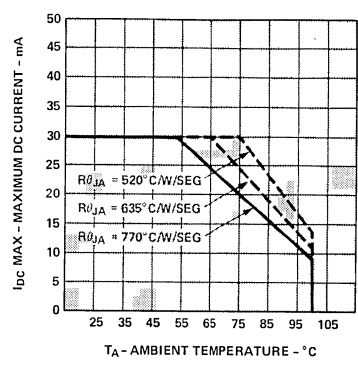
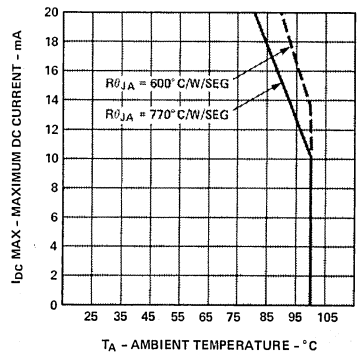
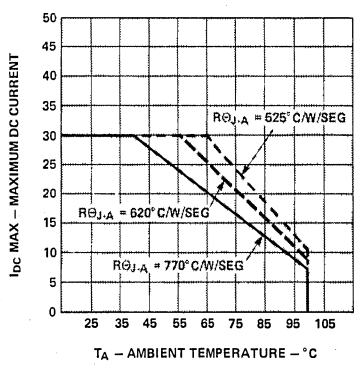

Figure 9. Maximum Allowable DC Current and DC Power Dissipation per Segment as a Function of Ambient Temperature — HDSP-7501 Series
Figure 10. Maximum Allowable DC Current and DC Power Dissipation per Segment as a Function of Ambient Temperature — HDSP-7401 Series
Figure 11. Maximum Allowable DC Current per Segment vs. Ambient Temperature — HDSP-7801 Series
8. See Figures 2, 9, 10, and 11 to derate maximum DC current. (Figure 2, HDSP-7301 Series; Figure 9, HDSP-7501 Series; Figure 10, HDSP-7401 Series; Figure 11, HDSP-7801 Series).